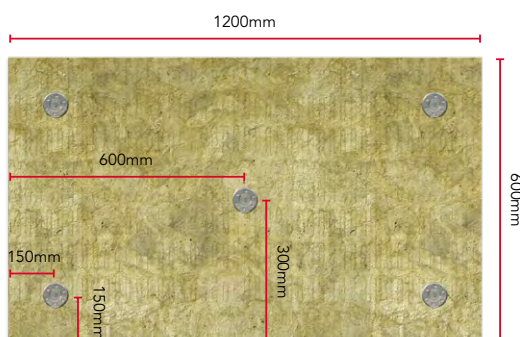

Figure 1
4. Recommended number and pattern of fixing for each slab are shown in Figures 1 and 2 depending on the fixing requirement. For more details, please consult the fixing manufacturer.